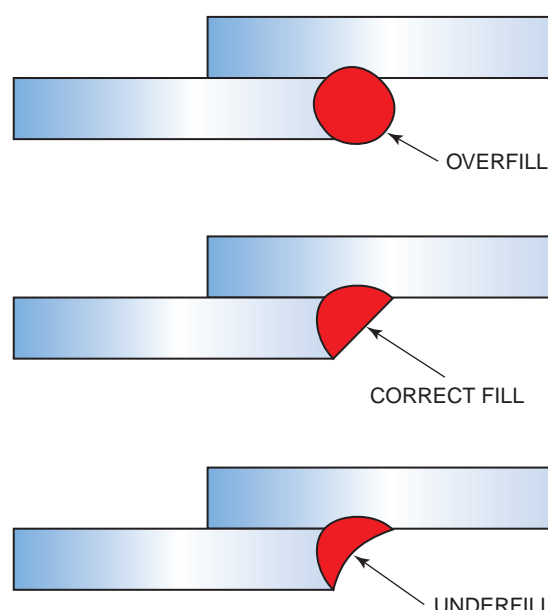

FIGURE 9-78 Correct fillet weld size for overhead welds.
- Use the stepped pattern and move the electrode forward slightly when the molten weld pool grows to the correct size, Figure 9-78.